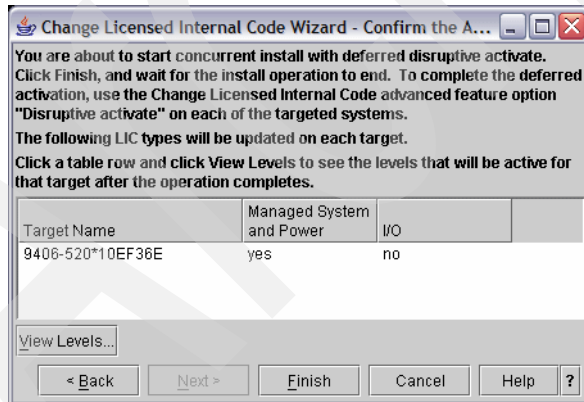

Figure 14-41 Change LIC Confirmation screen
11. The Change Licensed Internal Code Wizard Confirmation screen appears (Figure 14-41). This screen shows all the managed systems that will be updated and the type of update. You can use the View Levels button to see the level of firmware to be installed.